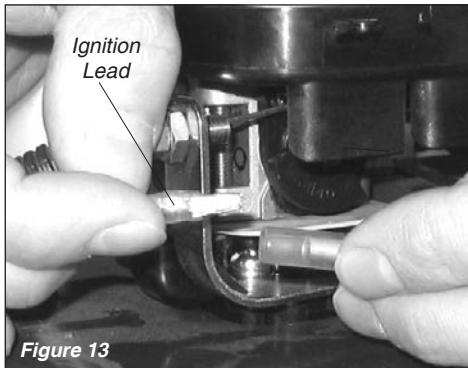

Figure 13
3. Connect the ignition wires by pushing the bullet connectors together. See Figure 13.